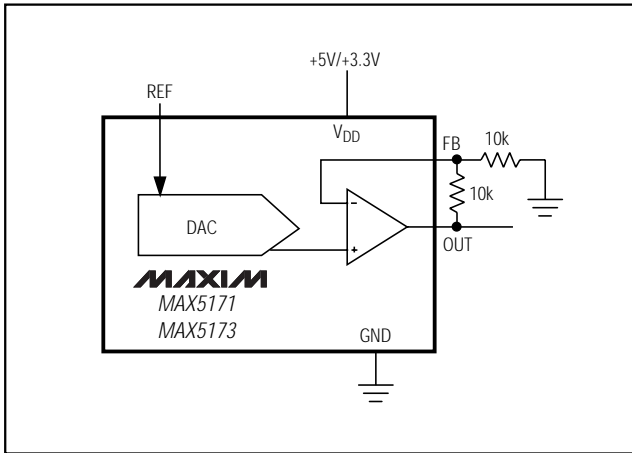

Figure 6. Unipolar Output Circuit (Rail-to-Rail)
Figure 6 shows the MAX5171/MAX5173 configured for unipolar, rail-to-rail operation with a gain of  $+2\text{V}/\text{V}$ . Table 2 lists the codes for unipolar output voltages. The output voltage is limited to  $\text{V}_{\text{DD}}$ .
**Table 2. Unipolar Code Table (Circuit of Figure 6)**